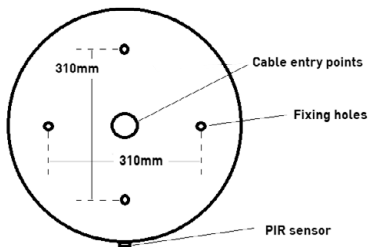

Fig. 1
- Ensuring the PIR sensor is in the required position, secure the baseplate to the surface using the screws, washers, and wall plugs provided (see Fig. 1)